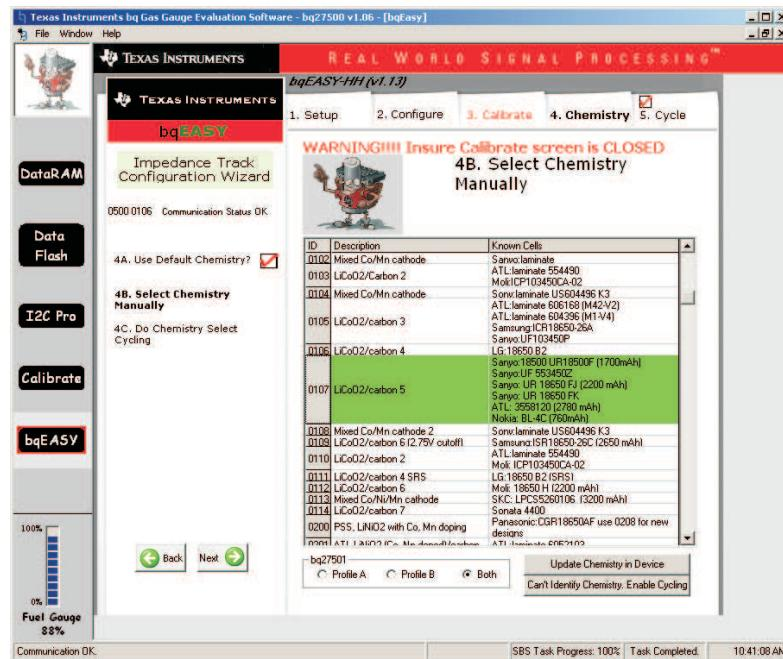

Figure 66. Load Chemistry
5. Because the chemistry is already identified from the previous learning cycle, the chemistry can be programmed into the device directly from the chemistry table. In order to do this, go to step 4B of bqEASY to select the chemistry manually (see Figure 66).